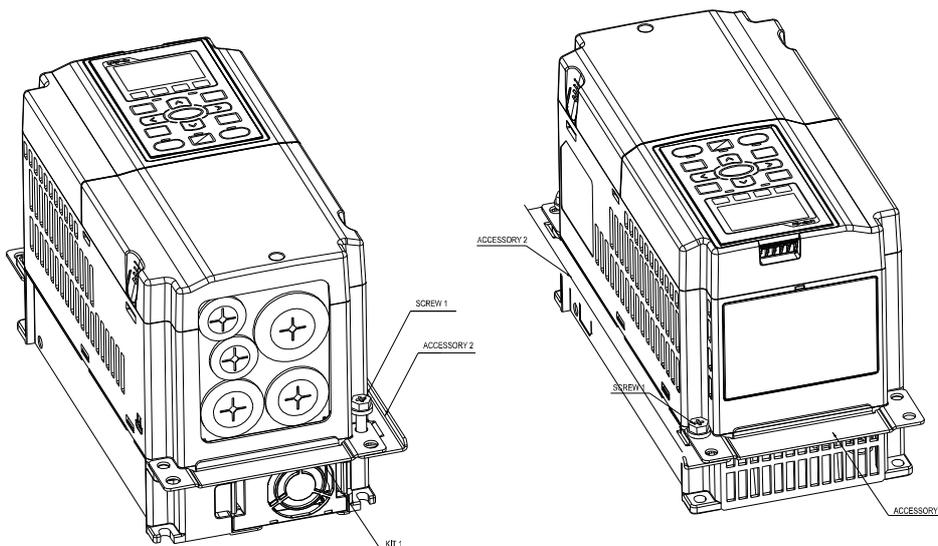

Figure 1
1. Fasten screw*2(M6) and accessory 2 &3. Screw torque: 25~30kg-cm (21.7~26lb-in). (figure 1)